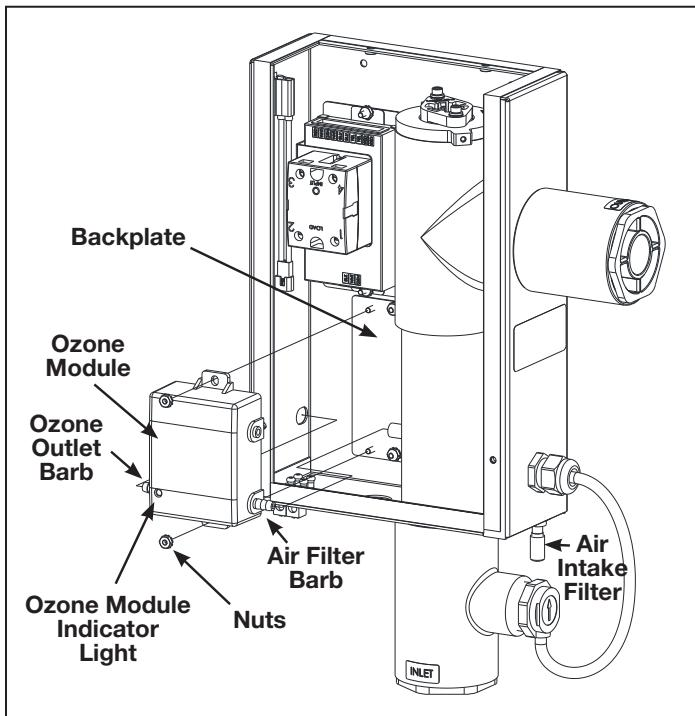

Figure 7. Ozone Module Replacement
Regularly inspect the air intake filter for excessive dirt or blockage and replace as needed or at least once per year. One air intake filter is included in the ozone module kit (R0992700) or is available in a dedicated kit (R1091700). See Figure 7 and steps 16 - 17 in Section 5.4.
3. Use a Phillips-head screwdriver to remove the four (4) screws holding the top and side covers. See Figure 7.
6. Remove the two (2) nuts holding the ozone module to the backplate, and set aside in a safe location.
10. Slide the ozone outlet barb into its cutout and install the new ozone module onto the backplate. Secure the ozone module with the two (2) nuts. Hand-tighten only.
16. Remove the filter cap assembly from the lower right side of the Jandy AOP system housing. Keep the cap and filter together. See Figure 7.